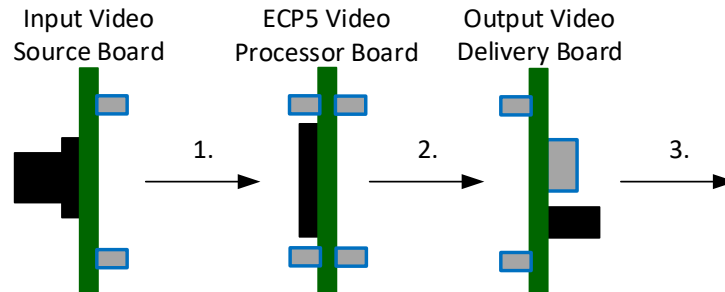

Figure 6.1. EVDK Three-Board Stack
2. Remove the top board of the CrossLink VIP from the LF-EVDK1-EVN. Figure 6.1 shows the EVDK Three-Board Stack.